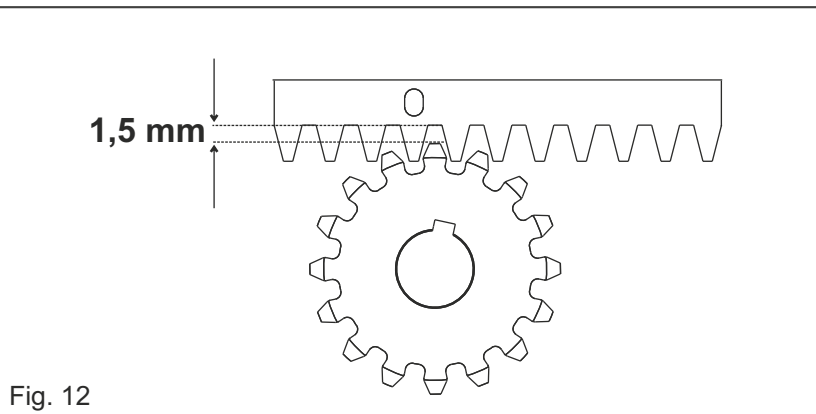

Fig. 12
5.6. To avoid that the gate weights down the pinion (Fig. 12) lift up the whole rack about 1,5 mm.